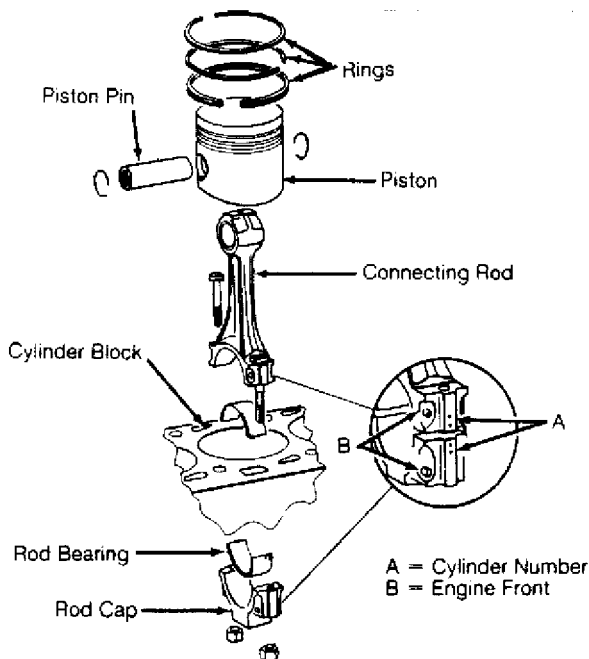

Fig. 15: Assembling Piston & Rod
1) Make sure piston, rod and rod caps are marked with matching cylinder number prior to removal. Ensure engine front arrow is marked on top of piston and front mark exists on rod and cap. See Fig. 15. Pistons and rods are to be replaced in sets of 4. Rod cap bolts and nuts must be replaced after removing or loosening.
2) Mark piston in relation to pin. Remove circlips from ends of pin bore. Use Piston Pin Replacer/Installer (VW 207C) for 1.8L engines or Piston Pin Replacer/Installer (VW 222A) for 2.0L engines to remove and install piston pin. If pin is too tight, heat piston to 140øF (60øC). Ensure rod is properly positioned with piston. See Fig. 15.
Measure ring end gap. Measure ring side clearance with piston. If not within specification, replace as necessary. See PISTONS, PINS & RINGS table under ENGINE SPECIFICATIONS at end of article. Install rings on piston with TOP mark facing upward. Recessed edge on outside of center ring must face piston pin (down). Position ring gaps on piston at 120 degree intervals. See Fig. 15.